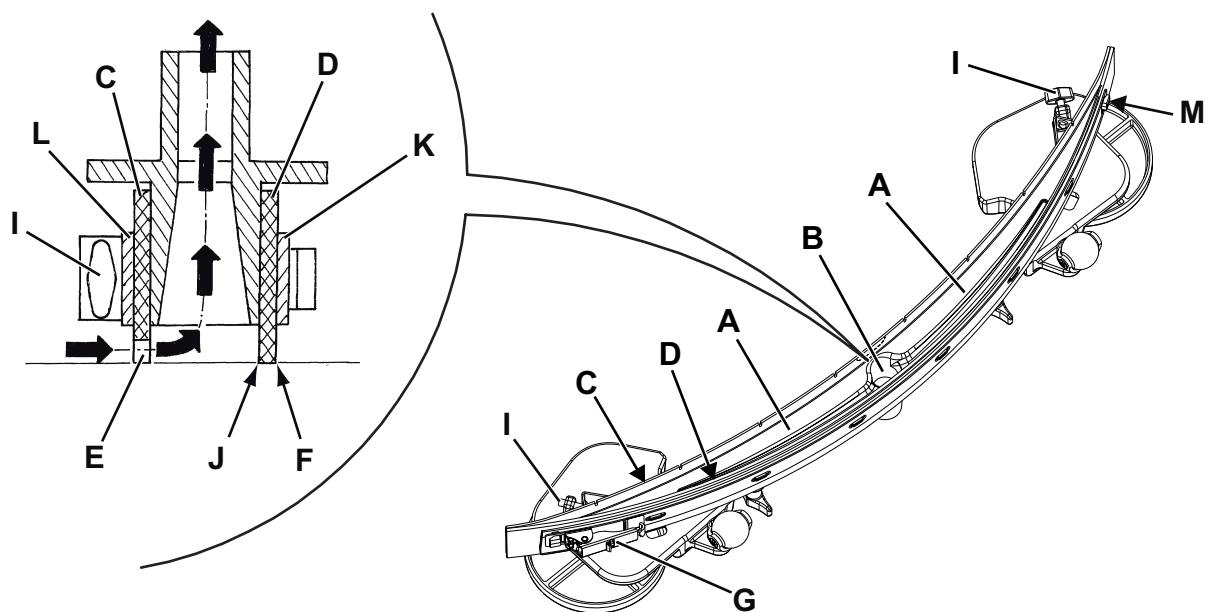

Figure 6
2. Insert the ignition key (58) and turn it to "I".
3. Lower the squeegee (30) by pressing the switch (63).
4. Turn the ignition key (58) to "0".
5. Disconnect the vacuum hose (31) from the squeegee.
6. Loosen the handwheels (34) and remove the squeegee (30).
7. Wash and clean the squeegee. In particular, remove dirt and debris from the compartments (A, Fig. 6) and the hole (B). Check that the front blade (C) and the rear blade (D) are integral and free from cuts and lacerations; if necessary replace them.
1. Clean the squeegee (Fig. 6) as shown in the previous paragraph.
2. Check that the edge (E) of the front blade (C) and the edge (F) of the rear blade (D) lay down on the same level, along their length; otherwise adjust their height according to the following procedure:
- Remove the tie rod (G), disengage the fastener (M) and adjust the rear blade (D); then engage the fastener and install the tie rod.
- Loosen the handwheels (I) and adjust the front blade (C); then tighten the handwheels.
3. Check the front blade (C) and rear blade (D) for integrity, cuts and tears; if necessary replace them as shown below. Check the front corner (J) of the rear blade for wear; if necessary, overturn the blade to replace the worn corner with an integral one. If the other corners are worn too, replace the blade according to the following procedure:
- Remove the tie rod (G), disengage the fastener (M) and remove the retaining strip (K), then replace/overturn the rear blade (D).
- Unscrew the handwheels (I) and remove the retaining strip (L), then replace the front blade (C).
5. Connect the vacuum hose (31) to the squeegee.